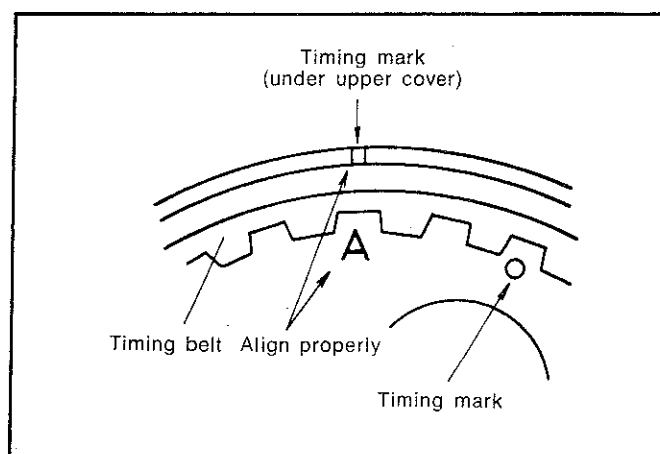

Fig. 86—Aligning timing marks
(1) Remove the timing belt front upper cover.
(2) Turn the crankshaft clockwise until "A" mark on camshaft sprocket is aligned with the timing mark on the upper cover. If the camshaft sprocket has no "A" mark, align the under upper timing mark with the second tooth from the timing mark "O" on the camshaft sprocket. This position corresponds to the "A" mark position (Fig. 86).